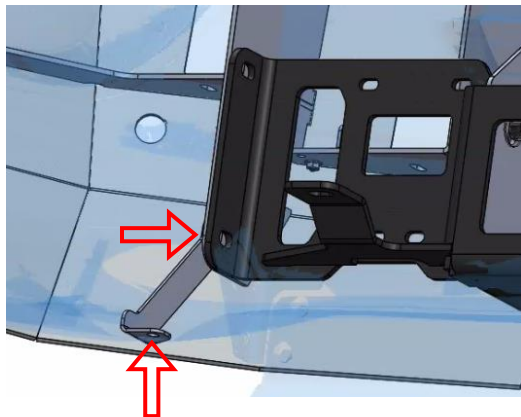

Figure 29: Plastic Support Installation (Driver's Side Shown, From Underneath, Center Looking Out)
29. Install plastic support bracket to outer bottom mounting hole on drivers and passengers side respectively. Attach wheel-well cover front to bottom hole. Long side of bracket attaches to steel winch tray, and short side mounts to plastic, with the bend going toward scenter. Reference Figure 29.